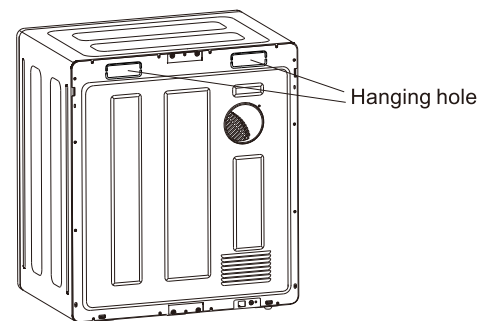

Fig. 4
2. Open hanging holes on the top of the back cover by cutter (Fig. 4)